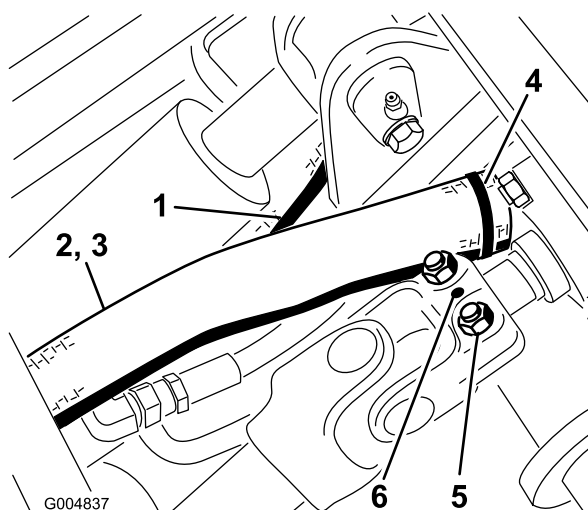

Figure 74
4. Remove the roll pin and loosen the two capscrews securing the drive shaft to the gearbox shaft (Figure 74). Slide the drive shaft off the gearbox shaft.